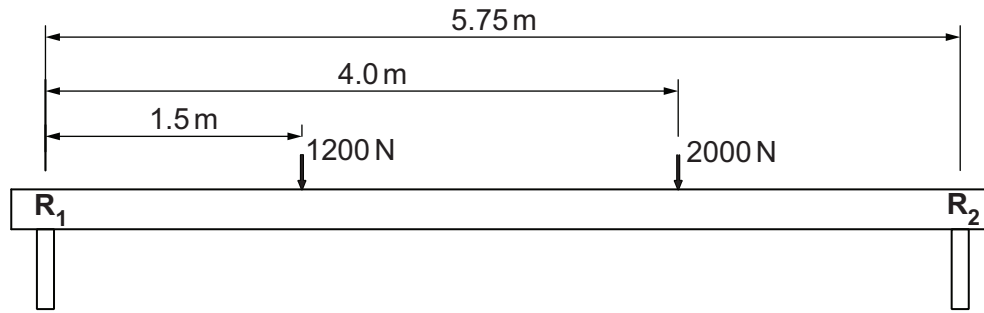

Fig. 10.2
- (b) Fig. 10.2 shows a beam in a roof with loads applied to it. The beam is supported at each end by a wall.